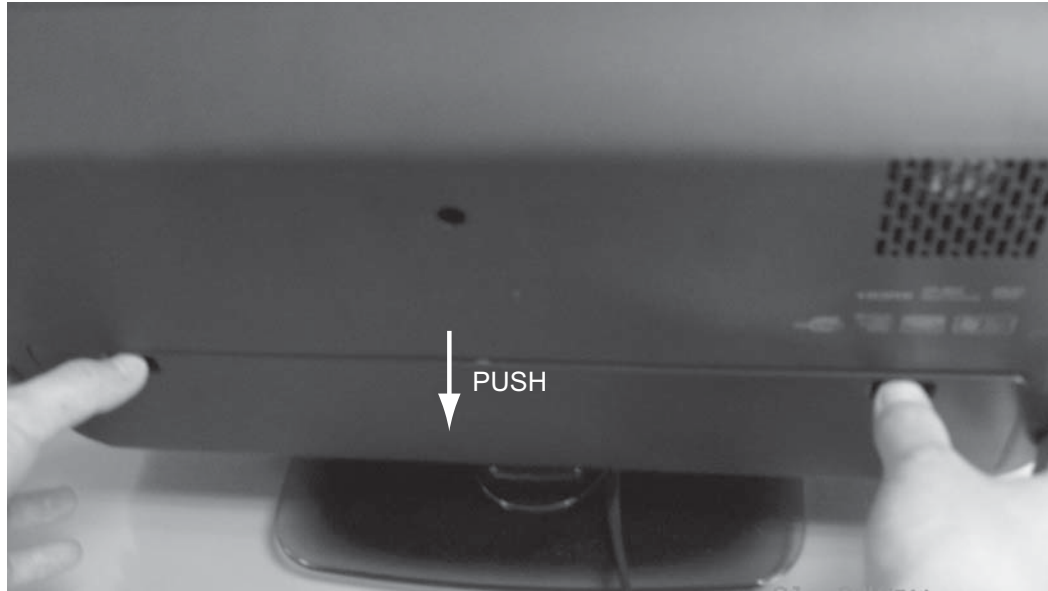

Figure 1
- 1) Using hands to push the cable door to remove it as shown in figure 1.